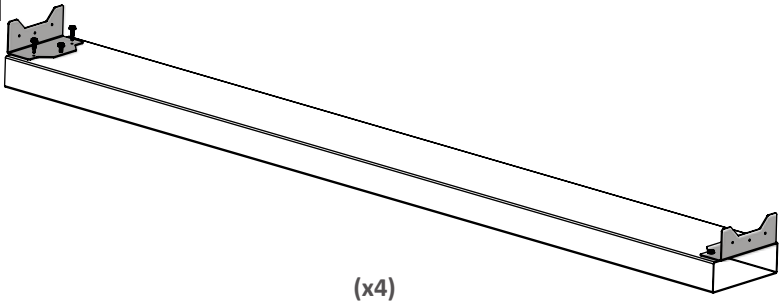

Fig. 92
4. Measure and mark 3" [76mm] from outside face of the End joist to the corner post blocking and side post blocking. As shown in Fig. 92.